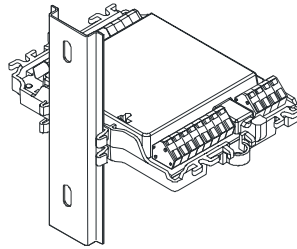

Fig. 1
- On a top hat rail (Fig. 1)
2. Push the input/output module with the mounting feet against the top hat rail until the mounting feet engage (Fig. 1).
- Auf einer Hutschiene (Fig. 1)